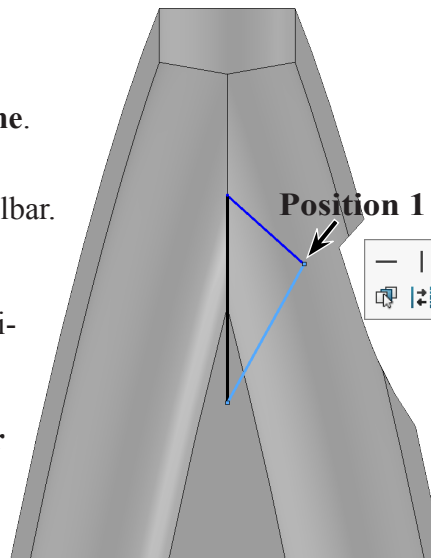

Fig. 38
Step 6. Click **Line**  (L) on the Sketch toolbar.
Step 7. Sketch the **3 lines**, **Fig. 38**. Start at **Position 1** and keep vertical line coincident with vertical edge of sweep cuts. As you sketch last endpoint back at **Position 1**, click **Make Perpendicular**  the constraint pop-up toolbar to add continuity relation to line.